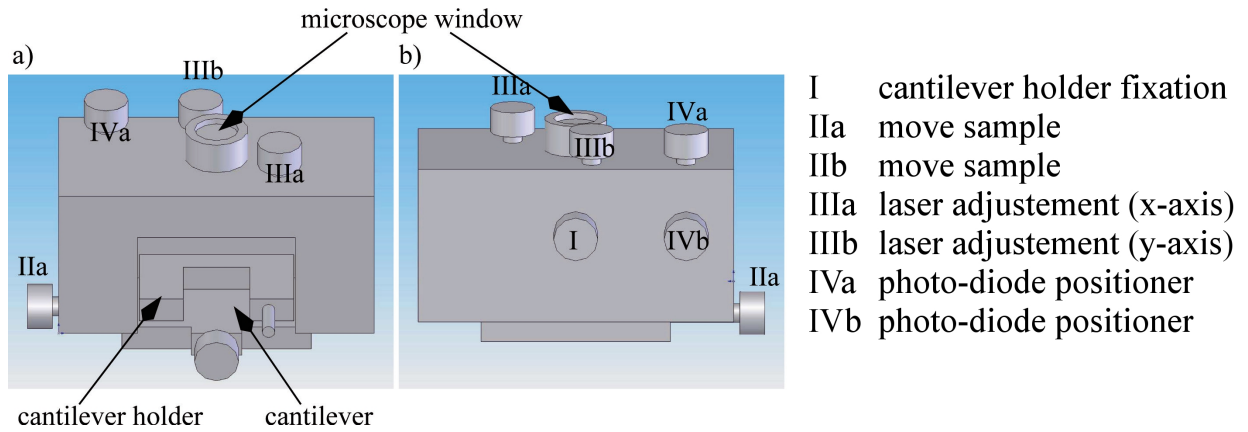

Figure 4.1: Schematic image of the AFM head, a) front and b) rear view. For the description of the parts see text.
8. Place the cantilever holder in the AFM head and fix it with adjustment I (as schematically shown in fig. 4.1).